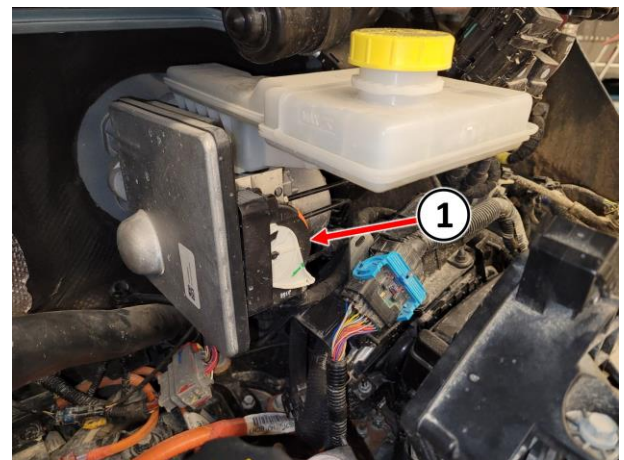

Figure 3 – ABS Connector
15. Under vehicle hood, disconnect the Antilock Brake System (ABS) module electrical connector (1) (Figure 3).
24. Reconnect the ABS electrical connector (1) (Figure 3).